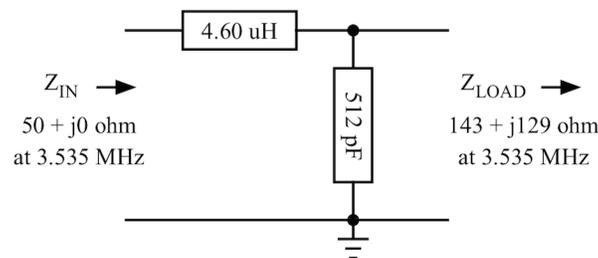

Fig. 1
- Extend the path in a circular arc from Point B to Point C, which is on or very near the gray circle,. At Point C, $Y_c = 0.193 + j0.395$. The change in normalized susceptance along this arc is $\Delta B = 0.569$. At 3.535 MHz, this ΔB is implemented as a 512 pF capacitor to ground, shown in Fig. 1.
- Finally, extend the path along a circular arc from Point D to Point E, which represents the input port. At Point E, $Z_e = 1.00 + j0$, which represents an input impedance of $50.0 + j0$ ohms. The change in normalized reactance along this arc is $\Delta X = 2.044$. At 3.535 MHz, this ΔX is implemented as a 4.60 uH series-connected inductor, shown in Fig. 1. This completes the design.